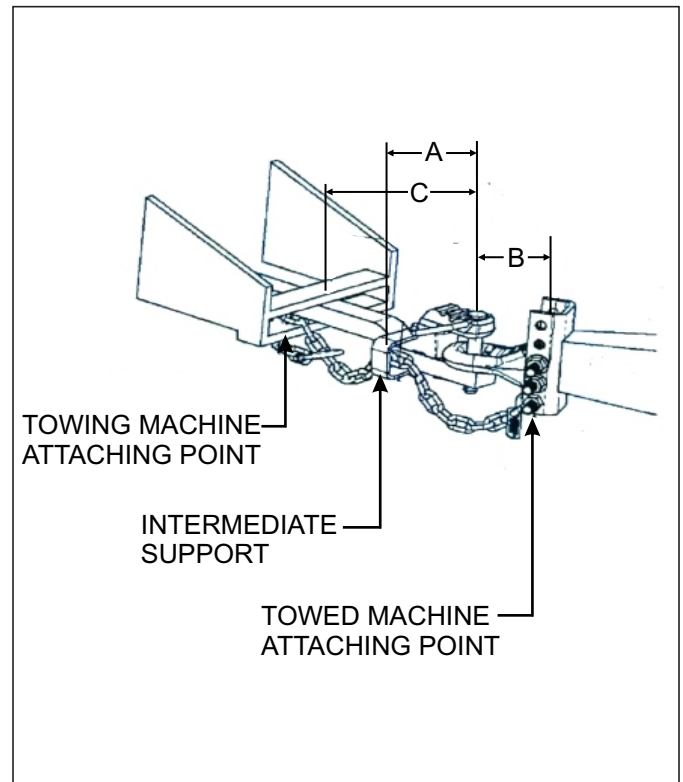

Figure 4-6: Auxiliary Attaching System with Intermediate Support
8. Attach the safety chain to the tractor drawbar See Figure 4-6, Refer to the tractor operating manual for additional information. Provide only enough slack in the chain for turning. Do not use an intermediate chain support as the attaching point for the chain on the tractor. Do not pull the implement by the safety chain.